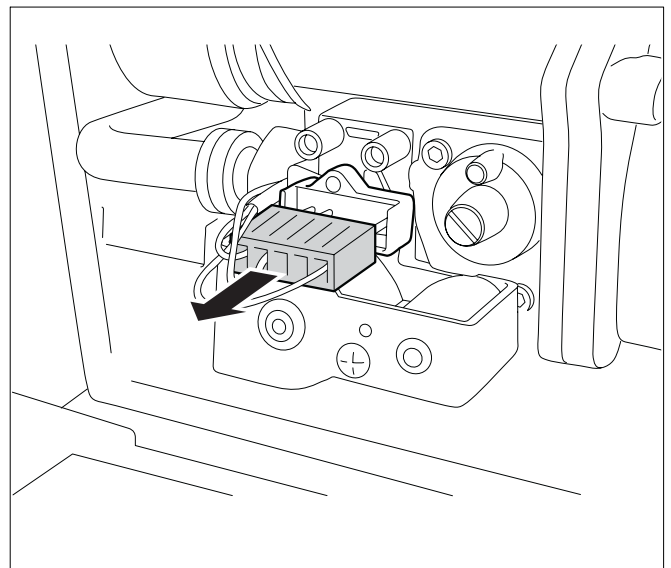

Fig. 81 Removing the gas control valve plug
- Remove the cable plug from the gas control valve (see fig. 81, pos. 1).